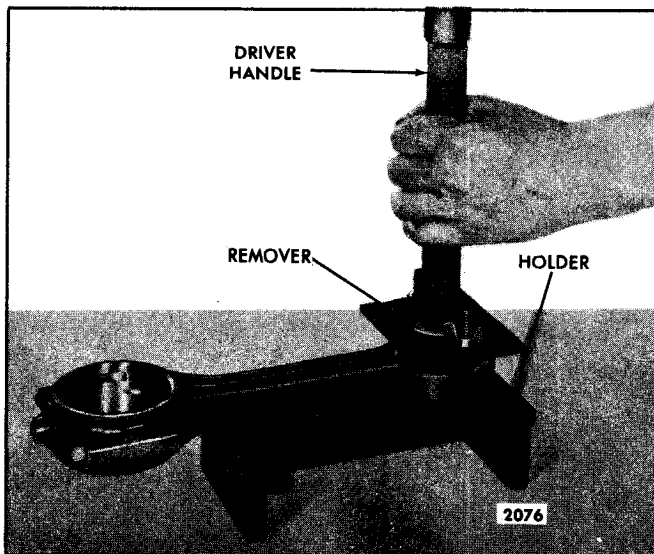

Fig. 4 - Removing or Installing Bushings
1. Clamp the upper end of the connecting rod in holder J 7632 (Fig. 4) so that the bore in the bushings is aligned with the hole in the base of the holder.